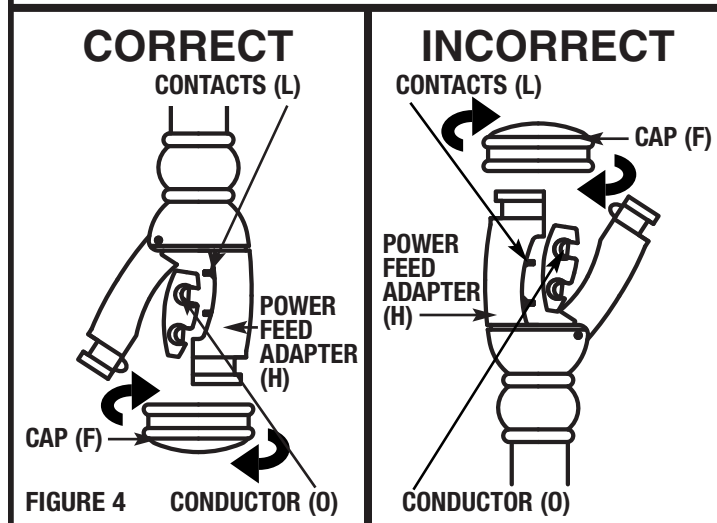

FIGURE 4
INSTALL RAIL ONTO POWER FEED AND SUPPORT (Fig. 4)
1. Unthread caps (H) from power feed and support adapters.
2. Install rail into rail adapters so conductors (M) face contacts (J) of power feed (see Fig 4). ***Please make sure contacts (J) fit into rail conductors (M) properly.** **NOTE:** If power feed or support adapters are not able to close around rail, turn rail around so adapter fits properly.
3. Close adapters (H) over rail. Tighten grounding screw on power feed adapter (H) into rail with phillips head screw driver. Thread caps onto adapters.